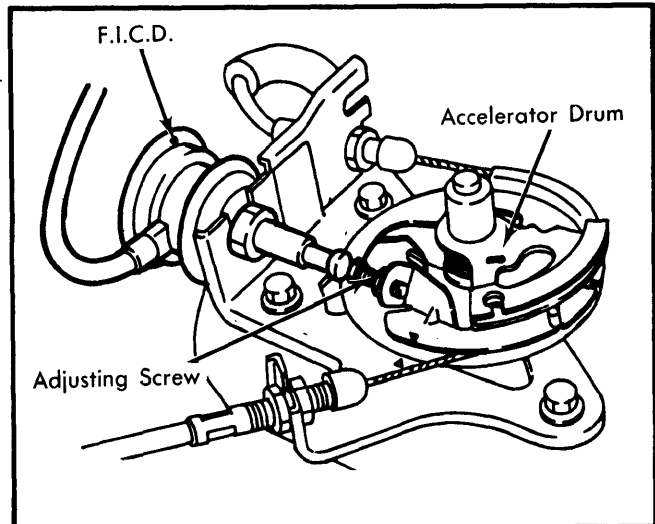

Fig. 12 Fast Idle Adjustment
4) With engine idling and air conditioning turned on, set high idle speed. Locate Fast Idle Control Device (F.I.C.D.) diaphragm and turn adjusting screw on accelerator drum to obtain fast idle speed of 800 RPM. See Fig. 12.